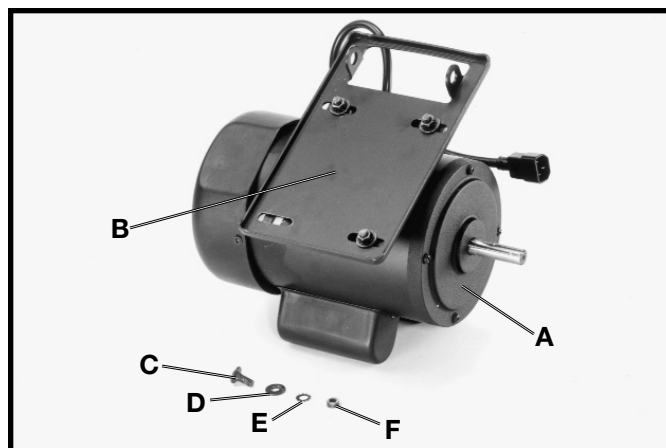

Fig. 16
Assemble motor (A) to motor mounting plate (B) as shown in Fig. 16. Align the four mounting holes in the motor with the four holes in the mounting plate. Insert a 5/16-18x3/4" carriage bolt (C), through the hole in motor and then through the hole in the motor mounting plate, place a 5/16" flat washer (D), then a 5/16" external tooth washer (E) onto the carriage head bolt, and fasten with a 5/16-18 hex nut (F). Repeat this process for the three remaining holes in the motor and the motor mounting plate.